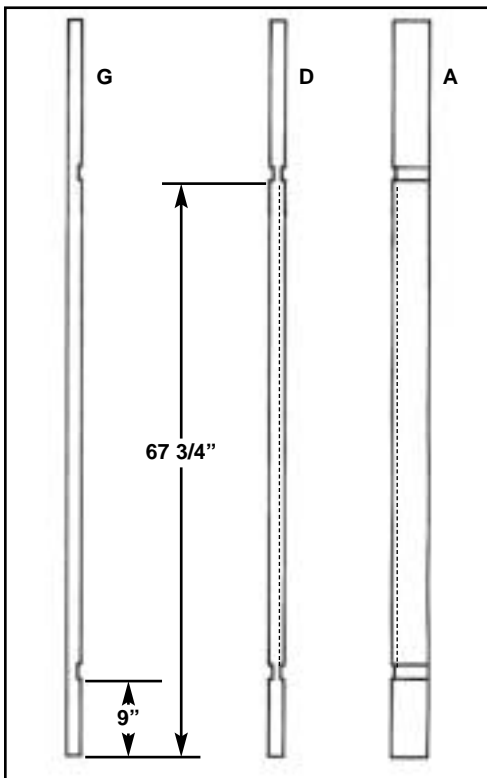

Figure 2
2. Cut 1/4" deep by 1 1/2" wide dados in boards (A), (D) and (G). Cut a 1/4" deep by 3/4" wide dado in boards (A), (B) and (D). See Construction Diagram and Figures 2, 3 and 4.